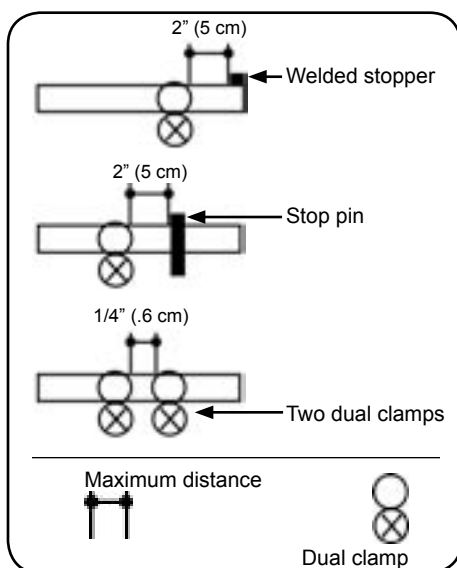

Fig. 106
- 1- Install the first dual clamp on the vertical tube of the wall tie frame below the top bar (fig. 104). Attach the wallmount to the dual clamp. Make sure that the distance between the welded stopper (or stop pin) and the dual clamp does not exceed 2" (5 cm) (fig. 106). Tighten the bolt.
- 2- Install additional dual clamps on the wallmount tube inside and outside the wall tie frame, making sure the distance between each dual clamp does not exceed 1/4" (0.6 cm) (fig. 106).